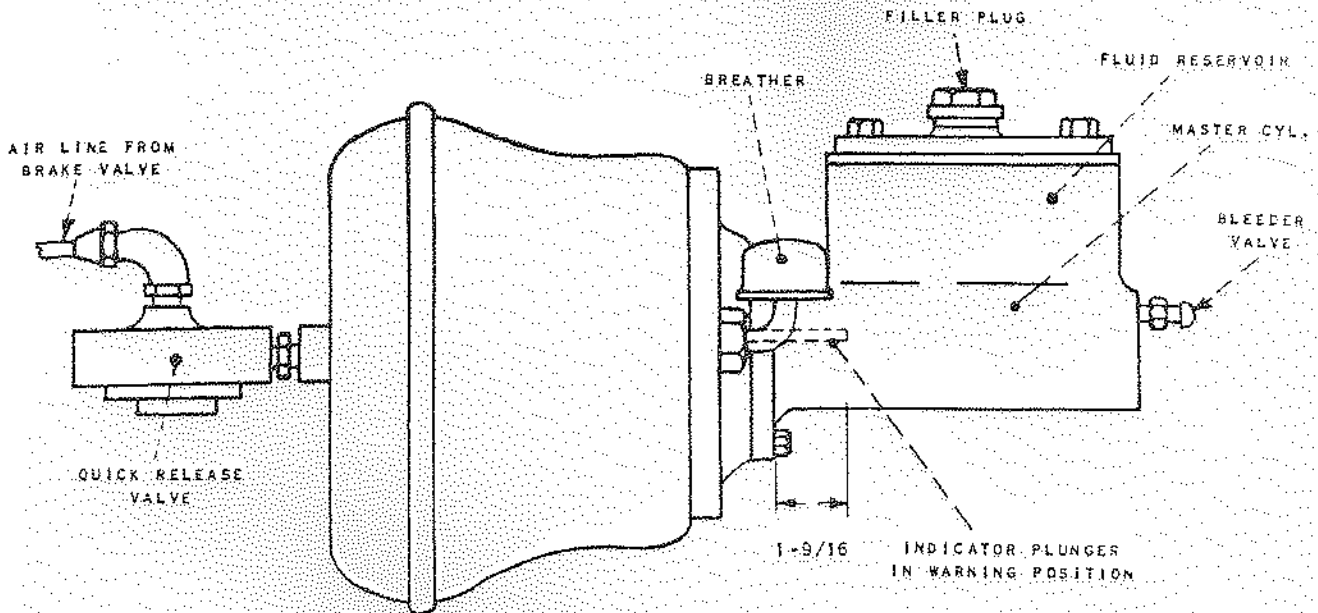

Fig. 6 - Air Hydraulic Actuator
**BLEEDING THE HYDRAULIC SYSTEM (Refer Fig. 6)**